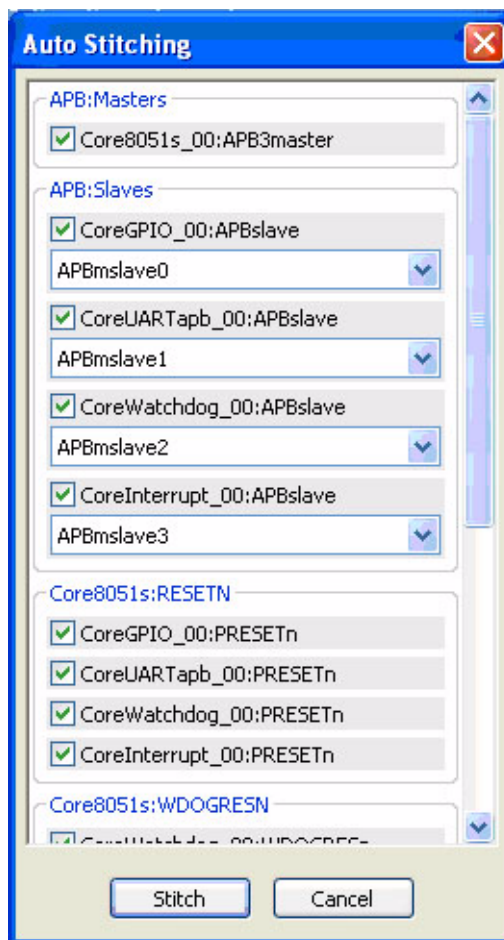

Figure 3-2. Example Auto Stitching
5. Click the **Actions** menu and select **Auto Stitch**. A small window appears with various options to auto stitch. For this example, auto stitch only the default selections. Click **Stitch** to connect all the devices through their respective ports to their default connections in the APB. See Figure 3-2.